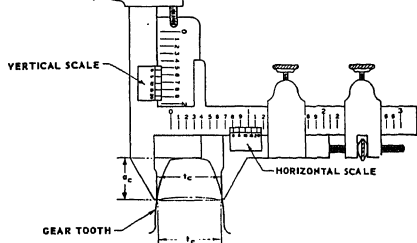

Figure 15-9.—Measuring gear teeth with a vernier caliper.
To check the dimensional accuracy of gear teeth, use a gear tooth vernier caliper (see fig. 15-9). The vertical scale is adjusted to the CHORDAL ADDENDUM (a_c) and the horizontal scale is used for finding the CHORDAL THICKNESS (t_c). Before you calculate the chordal addendum, you must determine the addendum (ADD) and circular thickness (C_t).
Now set the vertical scale of the gear tooth vernier caliper to 0.128 inch. Adjust the caliper so that the jaws touch each side of the tooth as shown in figure 15-9. If the reading on the horizontal scale is 0.1962 inch, the tooth has correct dimensions; if the dimension is greater, the whole depth (WD) is too shallow; if the reading is less, the whole depth (WD) is too deep.